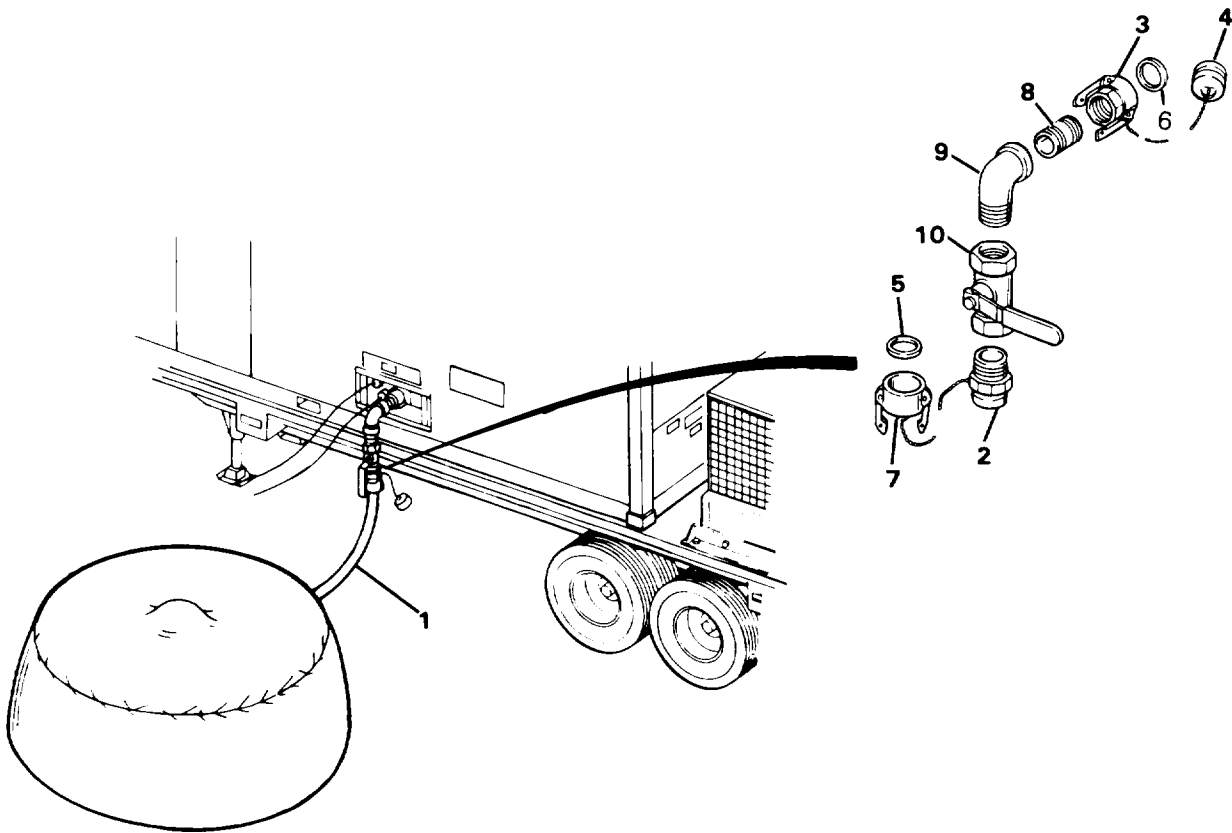

Figure 4-100. Adapter with Product Shut-Off Valve
- Refer to Figure 4-100. Disconnect hose assembly (1) from connector (2).
- Disconnect connector (3) and dust plug (4) from van outlet. Remove dust plug (4) from connector
- Remove connector (2) with attached dust cap (7) and connector (3) with attached plug (4).
- Remove nipple (8) and elbow (9) from product shut-off valve (10).